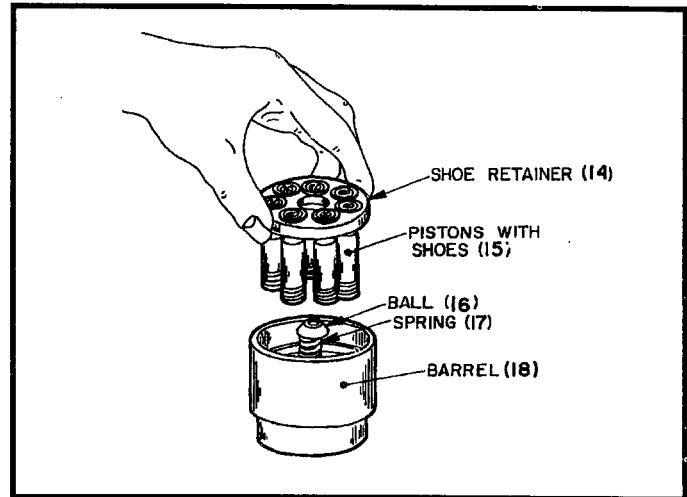

Figure 5. Rotating Group Disassembly (E51341).
See Figure 5. Lift off shoe retainer (14) with piston/shoe assemblies (15), remove fulcrum ball (16) and shoe retainer spring (17).
See previous Figure 5. Place the cylinder barrel (18), wear surface down, on a clean cloth. Place the shoe retainer spring (17) in the center of the barrel with fulcrum ball (16) on top of it. Insert the piston/shoe assemblies (15) into the shoe retainer (14).